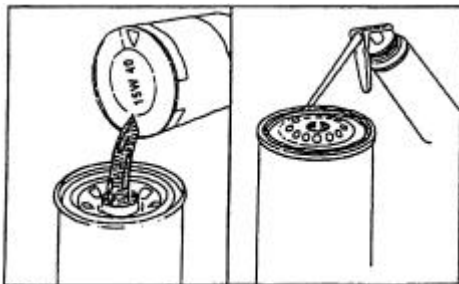

Fig. 5.33. Preparing Filters for Installation.
3. Clean the area around two full flow oil filters (2).
6. Fill the new filter with clean engine oil. Then, apply a thin coat of clean engine oil to the seal of the filter, as shown in Fig. 5.33.